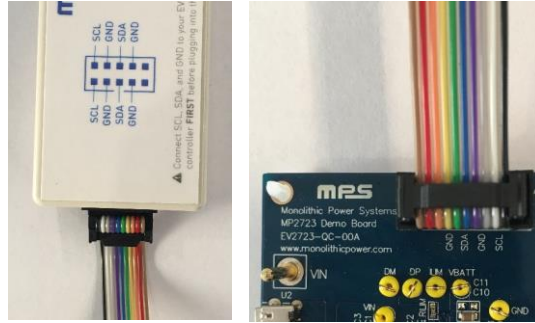

Figure 6: EVB to MPS I2C Communication Interface Wire Connection
2. Connect SCL, SDA, and GND (see Figure 6). Refer to the MP2723 datasheet for further clarification.